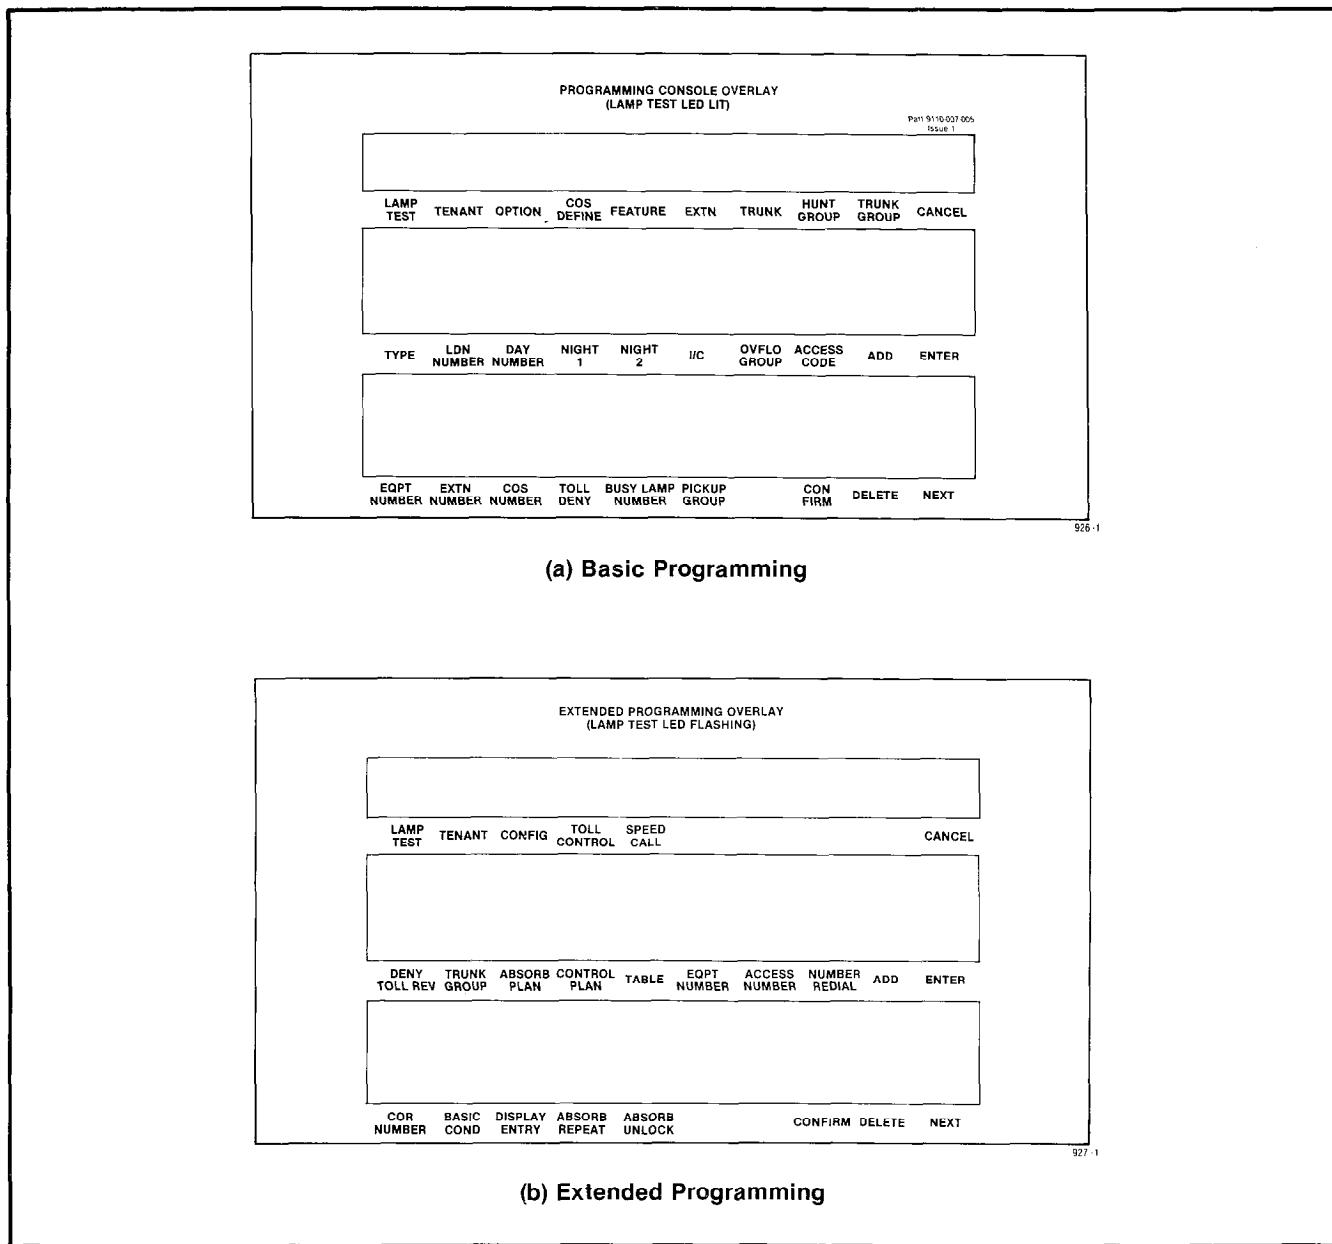

Fig. 4-2 Console Overlay Designations
4.02 The programming functions may be simulated by placing a Console Programming Overlay over the key assembly of a normal Attendant Console, when it is desired to use this console for programming or maintenance functions. On one side of the overlay are the button designations for use during basic programming and on the reverse, the designations for extended programming. Fig. 4-2 illustrates the different button designations.
6.01 Generic 204 includes additional functions to those described for Generics 202/203. Parts 4 and 5 of this Section describe the button functions associated with Generics 202/203, and should be referred to for some button functions used in Generic 204. Generic 204 may also utilize the Extended Programming Console Overlay (Fig. 4-2) with the additional button functions as described below.